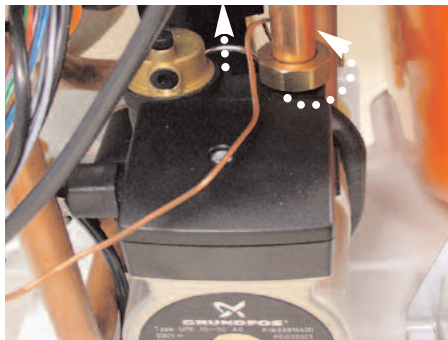

Fig. 18.67
5. Unscrew the pump nut "T1" and remove the clip "T2" on the pump volute (see Fig. 18.67 & Fig 18.68);